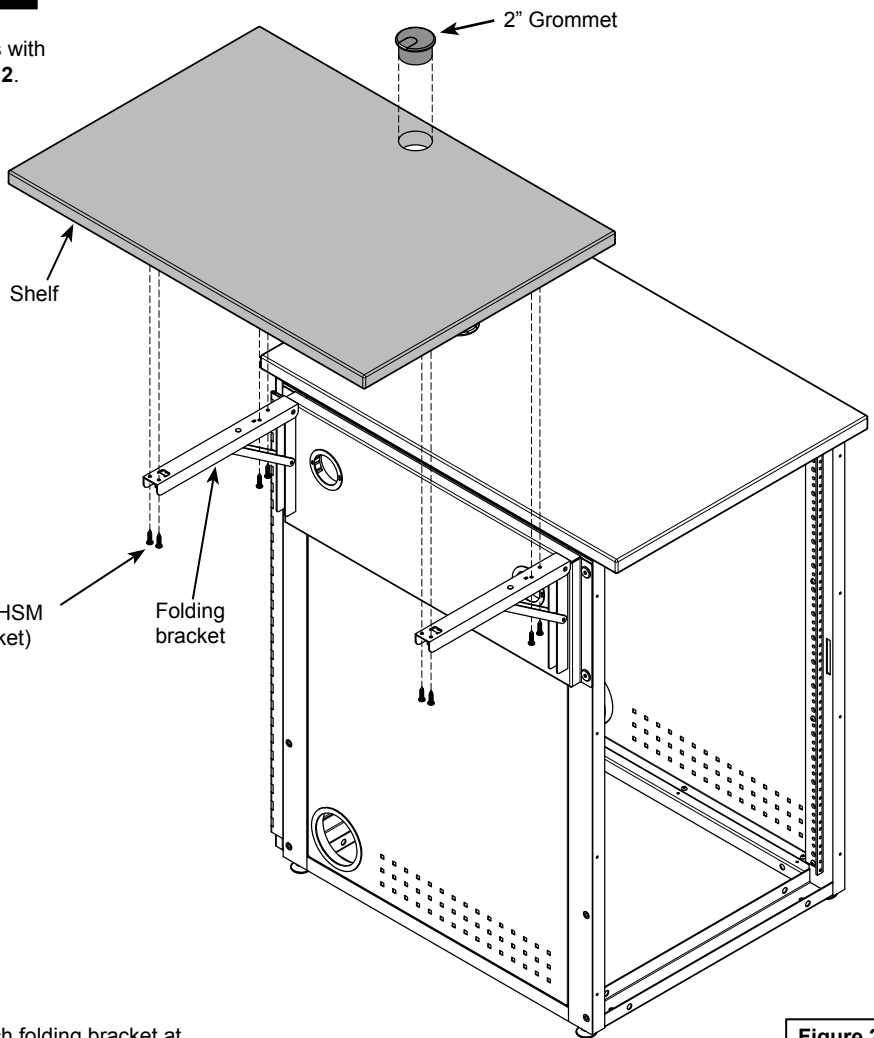

Figure 2
1. Attach the shelf to the fully-extended folding brackets with (8) #8 x 3/4" PHSM screws. (4 per bracket). **Figure 2.**